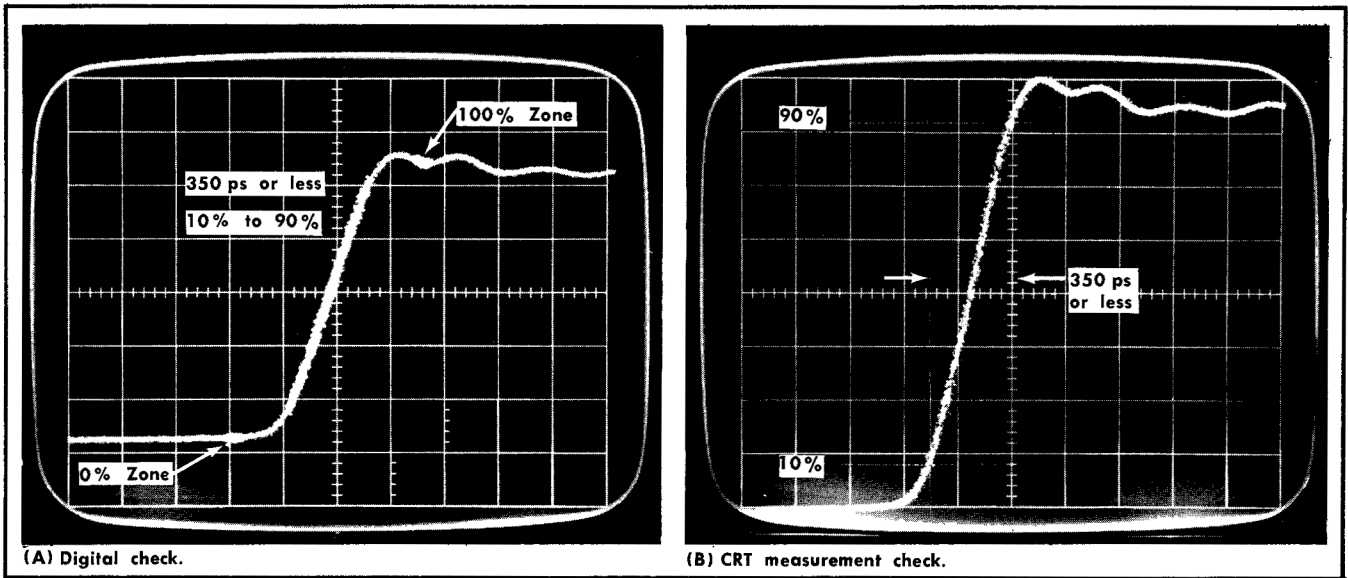

Fig. 5-7. Risetime measurement displays.
c. Once a pulse display is obtained, position it and the digital unit 0% and 100% zones as shown in Fig. 5-7. Read the risetime from the digital unit. With the Type 3T2 Time Magnifier at  $\times 50$  for 200 ps sweep rate, 350 ps will be read as +0.350 NS.